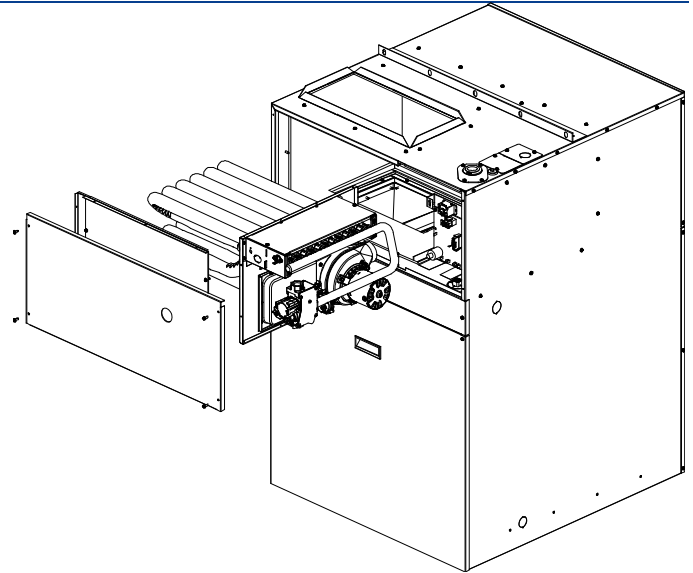

FIGURE 43 – Heating Access Panel Removal
- 2) Remove heating section access panels as seen in FIGURE 43 – Heating Access Panel Removal.